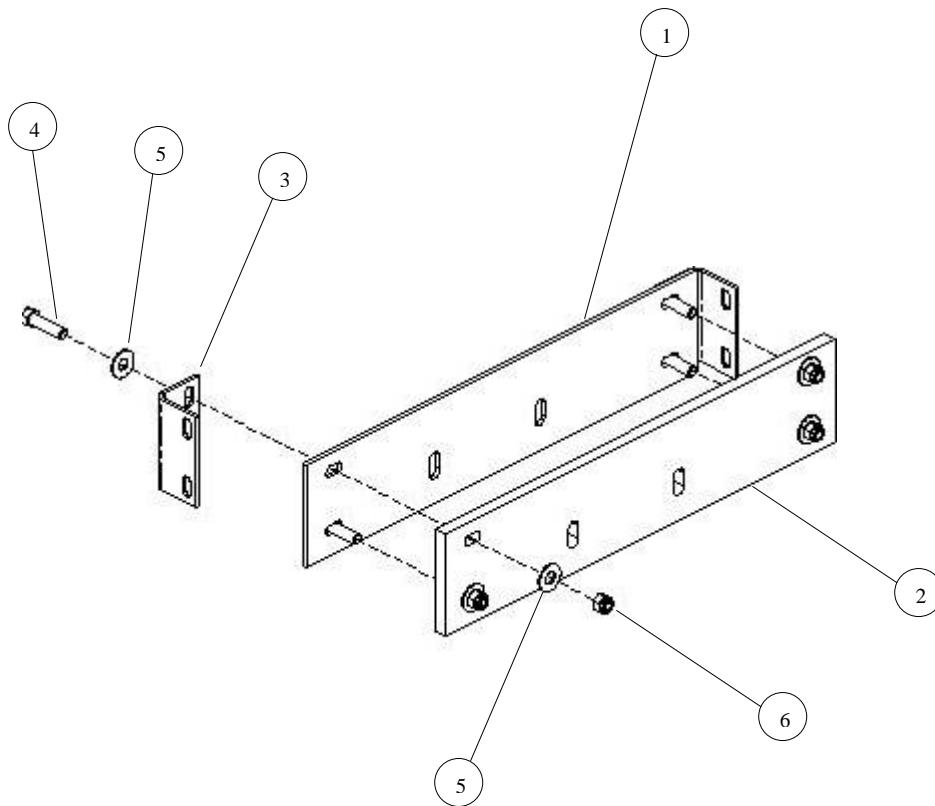

Figure 3-67. Right Step Panel Pre-Assembly.
1. Pre-assemble right step panels as follows (see Figure 3-67):
- a. Align right step panel (1) with right step panel (2) and install two armor step brackets (3) and secure each with two bolts (4), four flat washers (5), and two locknuts (6). Torque locknuts to 35 lb-ft.